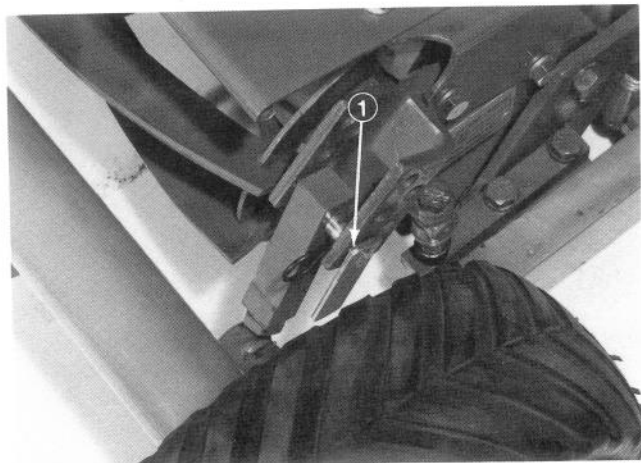
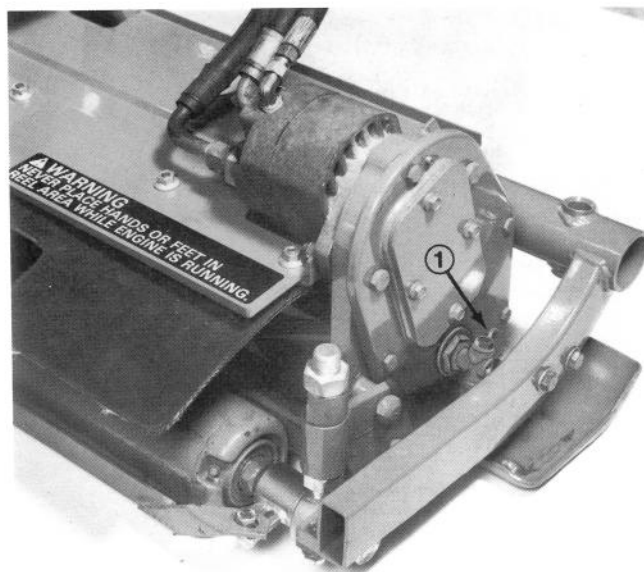

Figure 4
Figure 5
2. With the cutting units on the machine and on a level surface, raise the height of cut to the highest setting in either height of cut range by installing pin in H.O.C. bar in highest H.O.C. adjustment hole (Fig. 4) (Turf Pro 84). Remove the filler plug from the chain case and check the oil level in the case every 50 hours (approx. 2 weeks) during initial wear-in. 100 hours after oil level has stabilized and chain and sprocket wear-in has discontinued (Fig. 5). The oil should be to the bottom of the hole. Add SAE 90 oil if the level is low. Clear any metal filings off magnetic filler plug before re-installing in case.